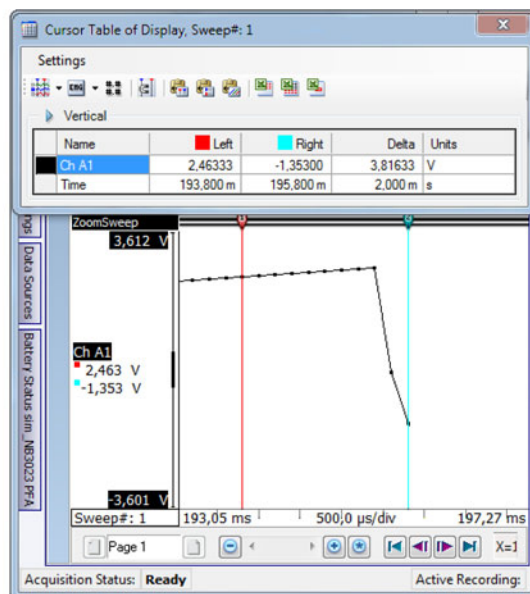

Figure G.10: Sample recording 2
- Next sample recorded (sample of blue cursors, see Figure G.10)